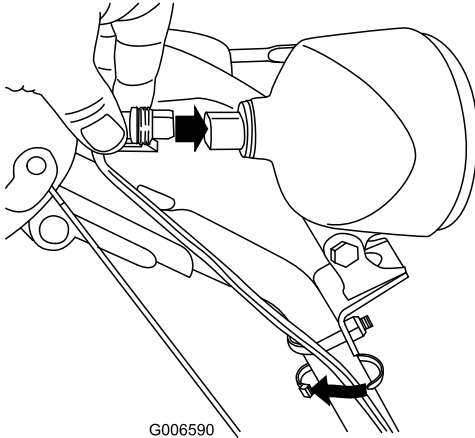

Figure 66
6. Insert the wire connector straight into the back of the headlight until it is securely in place (Figure 66).